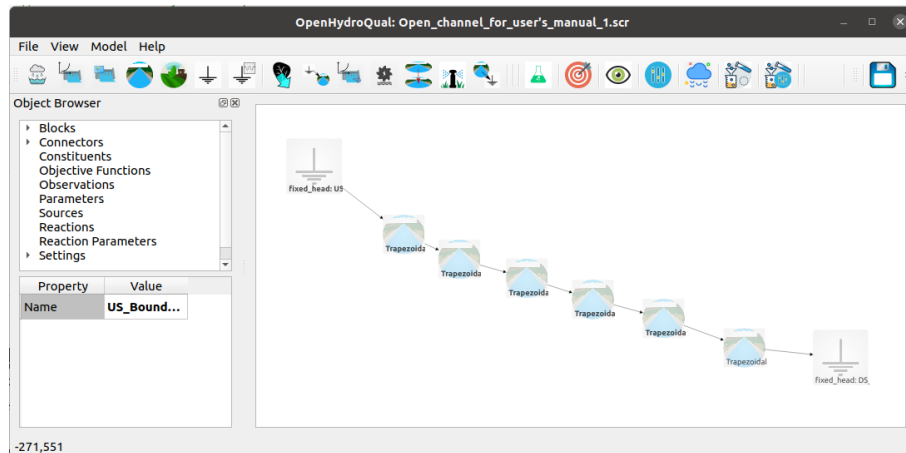

Figure 5: Screenshot of the GUI after adding the upstream boundary
14. **Connect the upstream boundary to the upstream channel block:** Use the "Link from a fixed head boundary to a channel segment" component  from the components toolbar and connect the *US_boundary* block to *Trapezoidal Channel Segment (1)*. Your GUI should look like figure 5.